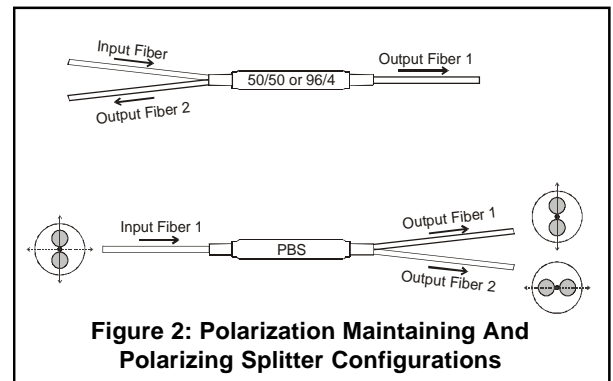

Figure 2: Polarization Maintaining And Polarizing Splitter Configurations
Polarization Maintaining Splitters: Also known as optical taps, these splitters use a partially reflecting mirror to transmit a portion of the light from the input fiber to the main output fiber, and reflect the remainder of the light to the second output fiber. All ports made using polarization maintaining fiber are aligned so that polarized light aligned parallel to the stress rods on the input fiber emerge from the output fibers in the same manner, maintaining the polarization state to a high degree. The top drawing in Figure 2 shows the arrangement of the input and output ports.
If the input fiber is a polarization maintaining (PM) fiber, the input fiber is aligned such that light polarized parallel to the fiber's stress rods is transmitted to port 1 of the splitter, while light polarized perpendicular to the stress rods is transmitted to port 2 of the splitter. The bottom drawing in Figure 2 illustrates this. Because of OZ Optics' modular design, the PM fiber configuration can be changed to whatever suits your needs.